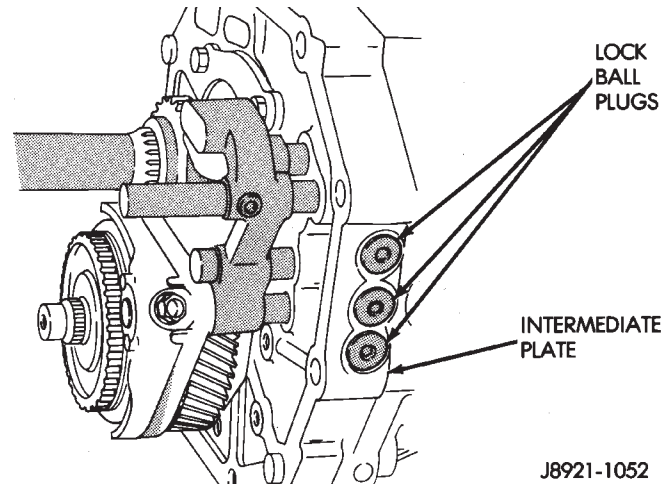

Fig. 65 Lock Ball Plug Locations
(17) Remove threaded lock ball plugs from intermediate plate (Fig. 65).